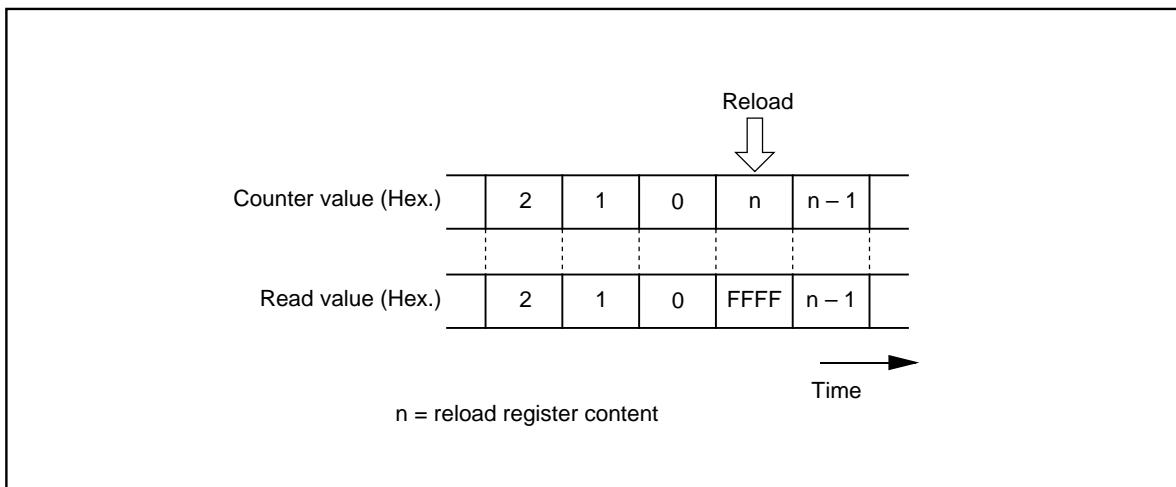

Figure 2.3.12. Reading timer Bi register
- (1) To clear reset, the count start flag is set to “0”. Set a value in the timer Bi register, then set the flag to “1”.
- (2) Reading the timer Bi register while a count is in progress allows reading, with arbitrary timing, the value of the counter. Reading the timer Bi register with the reload timing shown in Figure 2.3.12 gets “FFFF16”. Reading the timer Bi register after setting a value in the timer Bi register with a count halted but before the counter starts counting gets a proper value.